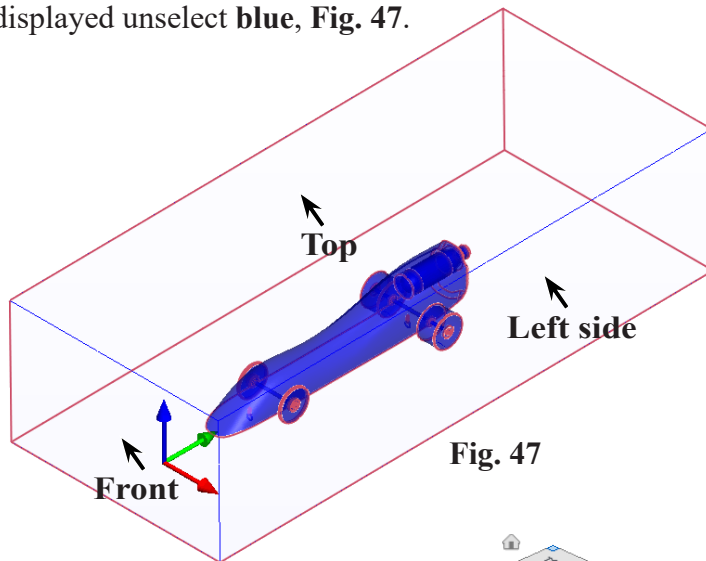

Fig. 47
1) click the 3 surfaces visible in Iso view - 3 edge will be displayed unselect **blue**, **Fig. 47**.